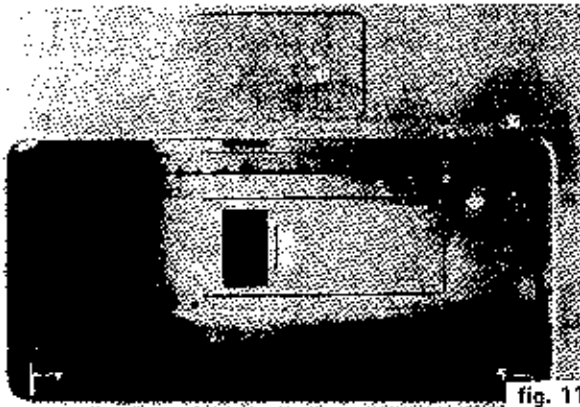

fig. 11
- check that the cleaning access doors are closed. They are located behind the ash pan (see fig. 11) on the front face below the oven and behind the warming drawer (see fig. 11). To lift out the warming drawer, close the drawer and push the drawer panel down so that the back sections lifts up. The drawer will then slide out ;